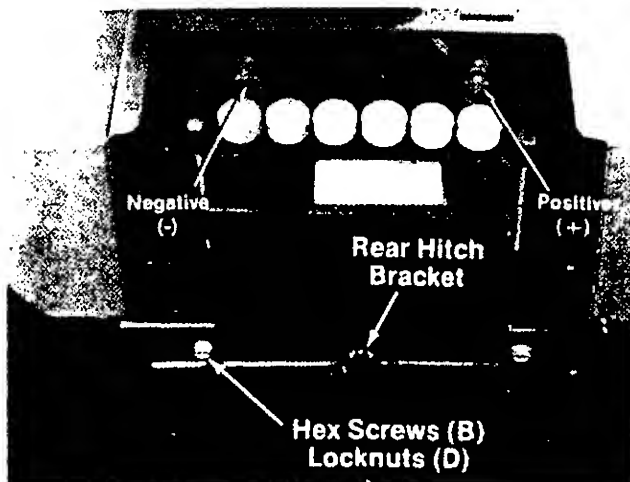

FIGURE 6.
2. Place battery in battery case with the terminals to the front of unit. Negative (-) terminal will be on the left hand side of rider. See figure 6.